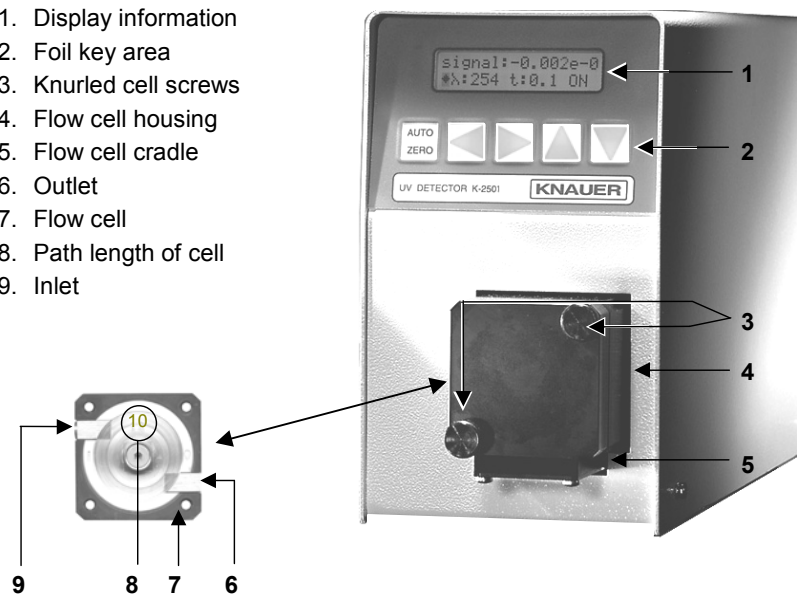

Fig. 2 Front Panel Elements of Photometer and Flow Cell
The foil key area (2) in Fig. 2 „Front panel of the Spectro Photometer K-2501“ consists of an AUTOZERO key and four arrow keys.